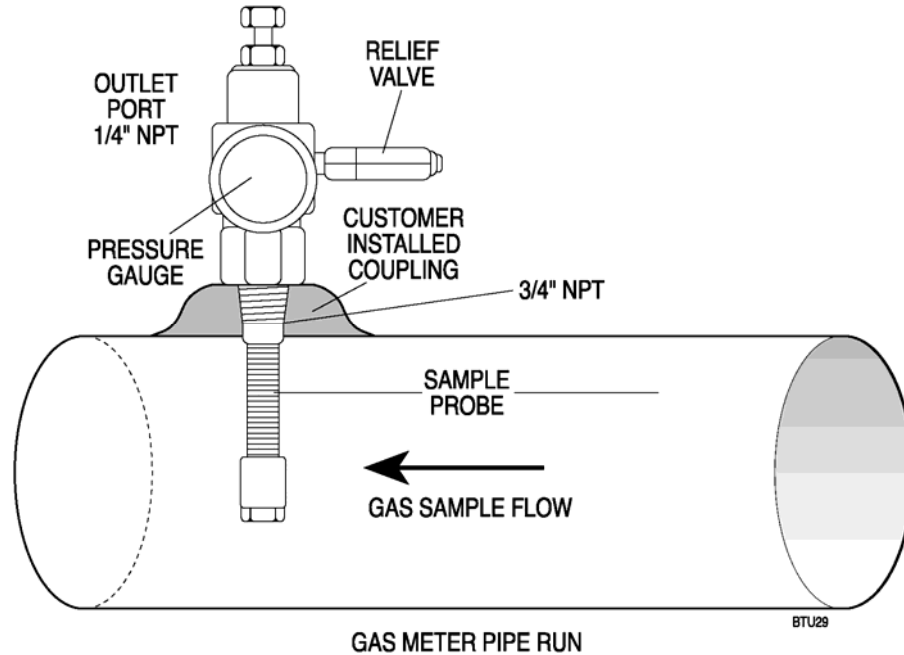

Figure 2 Sample Probe Insertion
- 6) Insert gas probe into pipeline coupling (see Figure 2).